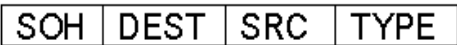

Figure 7: RS485 ACK Packet
The master-slave acknowledge cycle refers the process of indicating to the sender that an RS485 packet has been received intact and that more packets can be sent. This action is accomplished by sending an RS485 ACK packet back to the sender. Once a valid RS485 packet is received, and the CRC has been verified, another packet can be sent by the master. Therefore, successful reception of the link-layer packet must be followed by an ACK response from the slave. If no ACK packet is received following transmission of a data packet with a specified timeout period, the sender needs to re-transmit the data packet. An ACK packet consists of a standard RS485 packet without a length byte, any data payload bytes, or CRC bytes. The type byte is defined as an ACK (1). The ACK packet is shown in Figure 7.